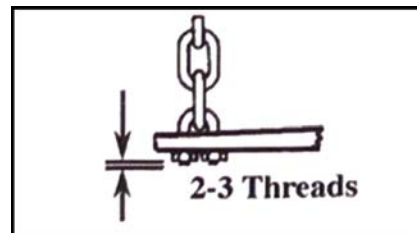

Figure 11: Let 2-3 threads of u-bolt through the bottom of each lock nut.
•Assemble the lift chains ⑦ to the tapered ends of each spring bar using the 3/8" u-bolts ⑧, 3/8" flatwashers ⑨, and the 3/8" hex locknuts ⑩.. Let two or three threads of the u-bolts extend out through the bottom of each locknut. The chain must be free to move in the u-bolt (see Figure 11).